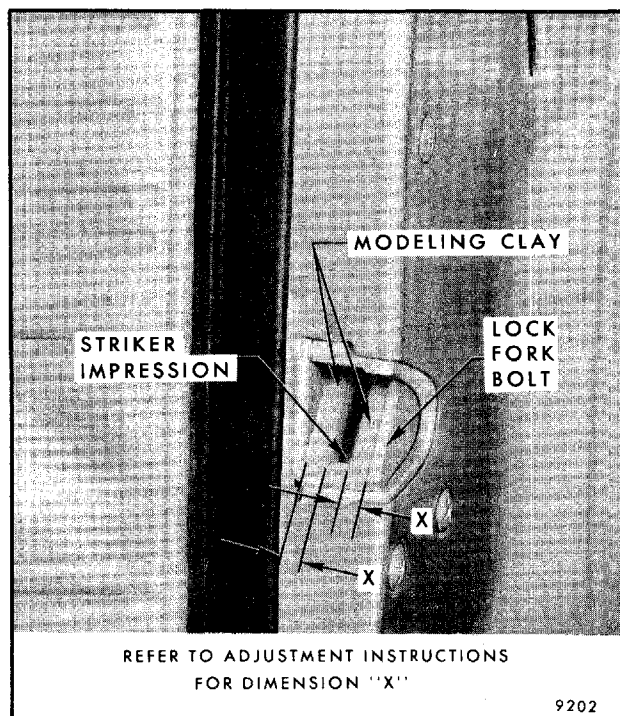

Fig. 5-49-Lock-to-Striker Fore and Aft Adjustment
- b. Apply modeling clay or body caulking compound to lock bolt opening as shown in Figure 5-49.
- c. Close door only as far as necessary for striker bolt to form an impression in clay or caulking compound as shown in Figure 5-49.
- d. Striker impression should be centered fore and aft as shown in Figure 5-49. Allowable minimum measurement for dimension "X" is as follows: